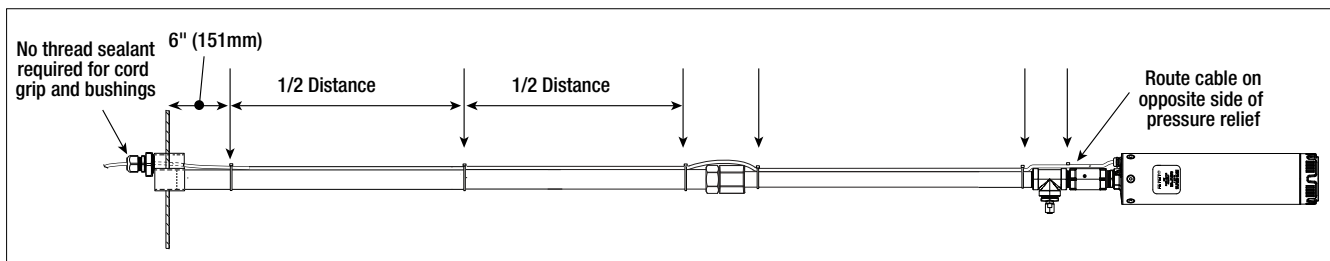

Figure 9. Tie Strap PMA Cable to Column Piping
- Secure the PMA cable to the column pipe with tie straps. Locate the tie straps approximately as shown in Figure 9. Ensure the PMA cable is not in front of (blocking) the pressure relief valve.